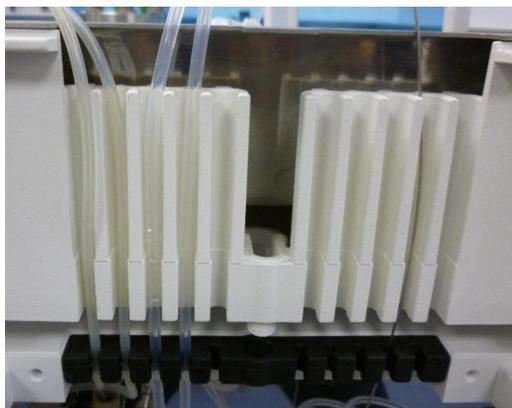

Figure 10. The tubing that is connected to the pump can be neatly organised behind the front panels of the pump and solvent tray.
- There are tubing guides behind the front panel (pull off) of both solvent tray and the pump (Figure 10).